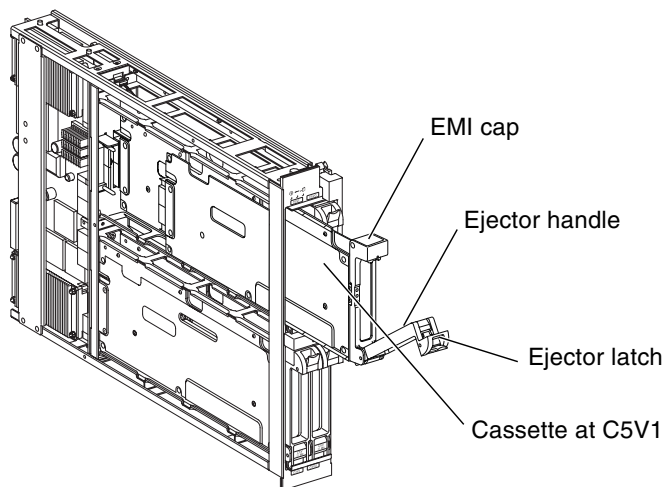

FIGURE 9-2 PCI Cassette Removal
6. Press down the ejector latch at the top front of the cassette to release the ejector handle (FIGURE 9-2) and carefully remove the cassette.